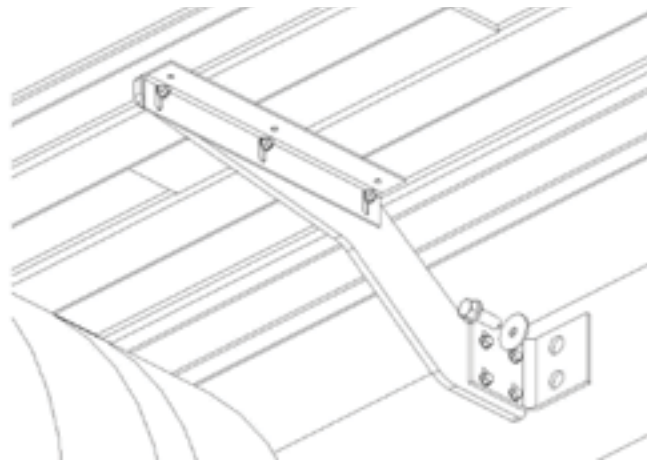

Figure 10
- A. Mount the center brackets between each set of tandems. Using the center bracket as a guide, drill three 5/16" holes in fender. Use the 5/16 x 1-1/4" supplied bolts to attach fender to bracket. Figure 10 shows a typical center bracket installation. Try and use existing holes to mount center bracket to truck frame.